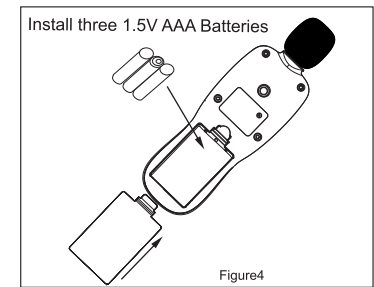

Figure 4
1. Open the battery cover, put 3 AAA size batteries of 1.5V, (see Figure 4).